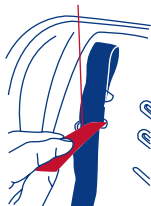

Fig. 31-1
- Using the included Belt Threading Tool, insert the Harness Straps through the Slots selected in step 2 above, in the seat pad and the seat shell, respectively. (Fig. 31-1)